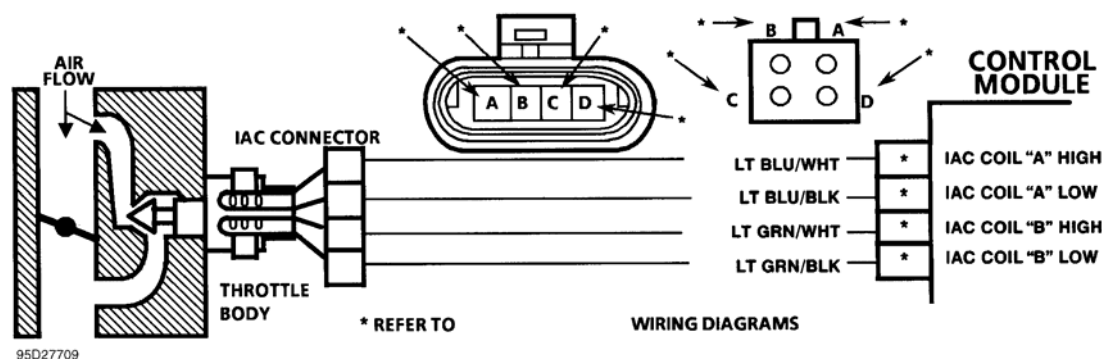

Fig. 2: Identifying IAC Valve Circuits (Typical)
- Disconnect harness connector to motor. Check resistance across IAC coil terminals "A" to "B" and "C" to "D". See **Fig. 2**. Resistance should be 40-80 ohms. If okay, go to next step. If resistance is not as specified, replace IAC valve.